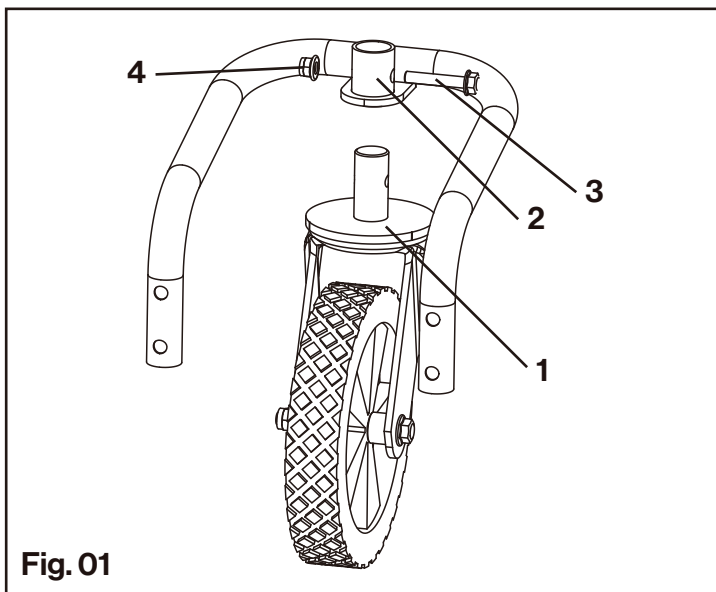

Fig. 01
1. Insert the shaft of the swivel wheel (1) into the bracket sleeve on the support frame (2).
3. Secure the wheel using the M8x45 flange bolt (3) and M8 flange nut (4). **(Fig.01)**